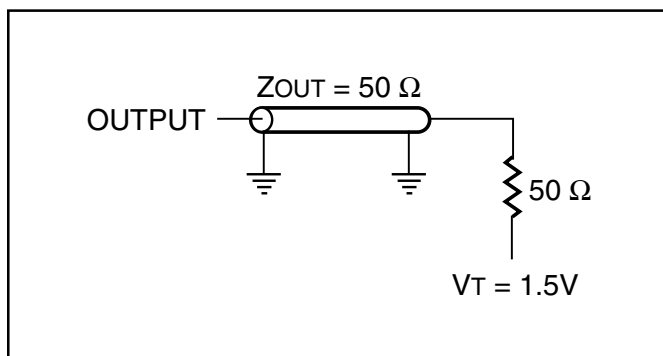

Figure 1
- Test conditions assume signal transition times of 3 ns or less, timing reference levels of 1.5V, input pulse levels of 0 to 3.0V and C1 output loading specified in Figure 1.
- Tested with the C2 load in Figure 1. Transition is measured ± 500 mV from steady-state voltage. Not 100% tested.